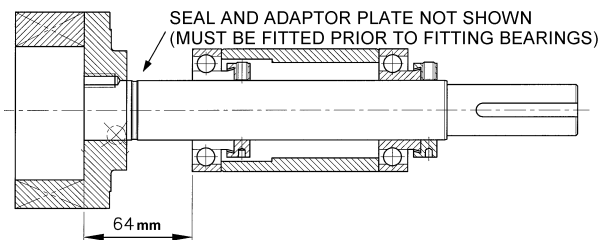

Figure 7
4. Assemble inspection end bearing over shaft and lock to shaft (**See Note below**) by means of the eccentric lock collar at a distance of 64mm measured from the root of the rotor teeth to the face of the bearing (refer Fig 7). Apply a medium strength thread locking adhesive to the grub screw and lock to shaft.